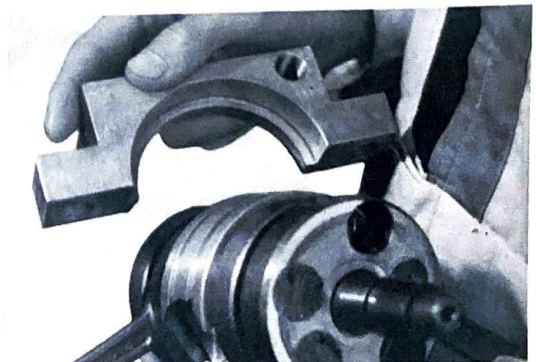

Fig. 4-17-5
- 1) Insert the tool (1) into the gap between the crank wheel and the crank cover. (Fig. 4-17-5)